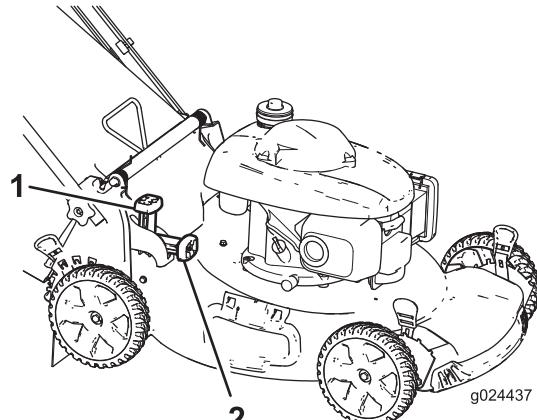

Figure 15
- To **bag the grass and leaf clippings**, press the button on the bag-on-demand lever and move the lever forward until the button on the lever pops up (Figure 15).